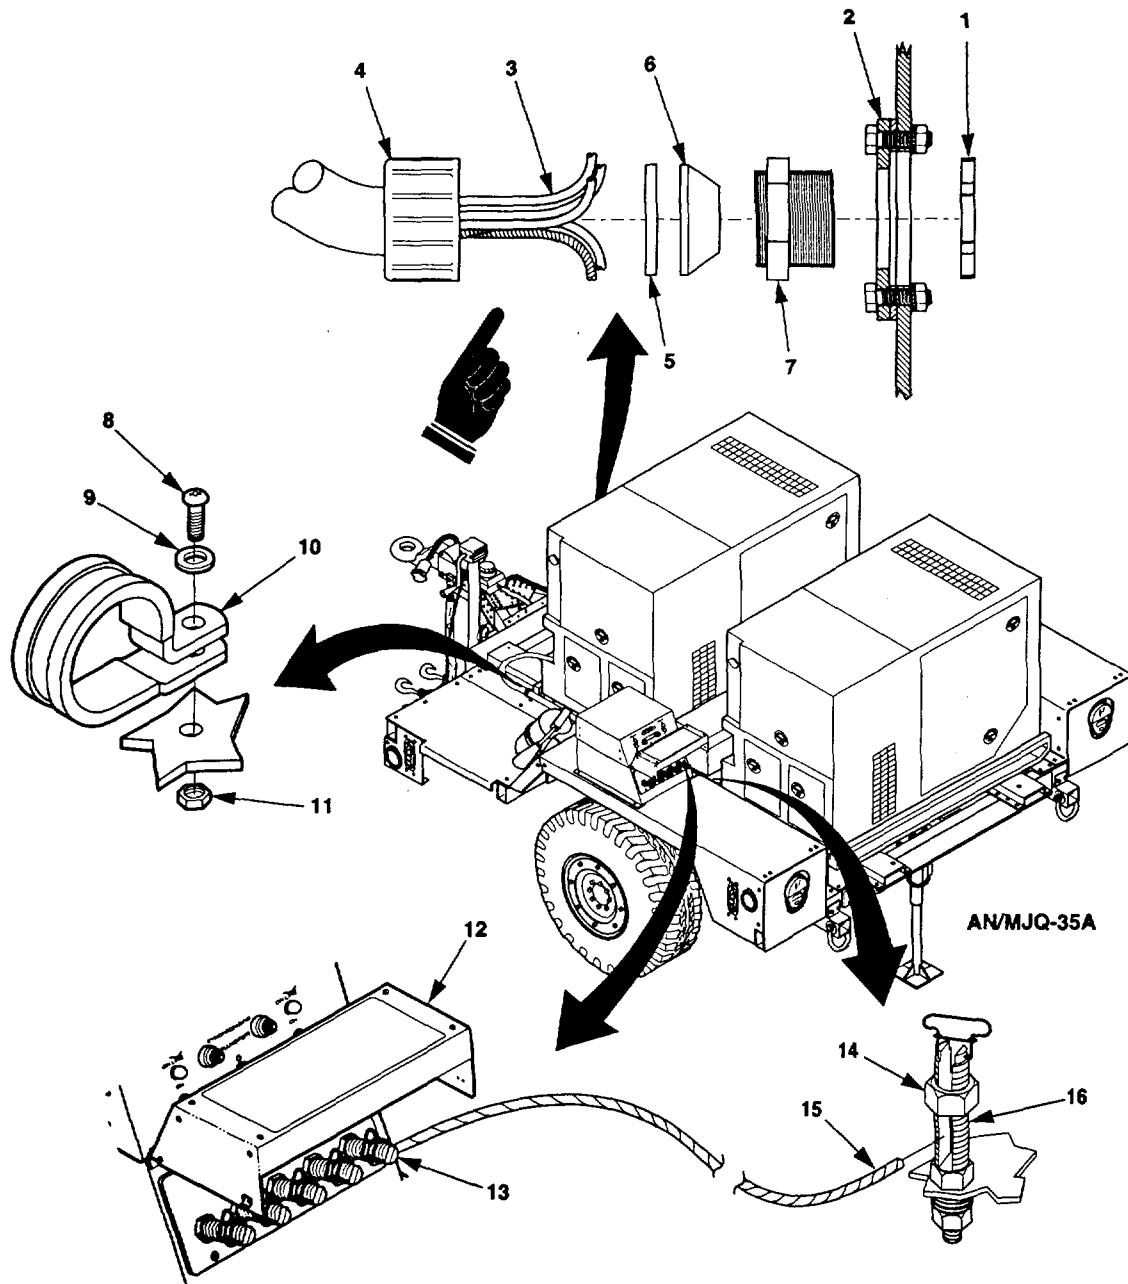

Figure 4-1.1. Installation of Power Cables on AN/MJQ-35A.
- j. Install flat washer (15), hex nut (14), two flat washers (13), and wing nut (12). Tighten nut (12).
- k. Unlatch and open switch box load terminal cover (18).
- l. Connect ground wire (16) to switch box ground terminal (19).
- m. Close and latch switch box load terminal cover (18).
- n. Position cable and ground wire inside two clamps (10) and secure clamps to trailer using two screws (8), flat washers (9), and nuts (11).
**4-5.2.2 Assembly of Power Plant AN/MJQ-35A.** Refer to figure 4-1.1 and assemble the AN/MJQ-35A Power Plant as follows:
- a. For front generator set, remove stuffing tube locknut (1) from stuffing tube body (7). Slide locknut (1) off power cable leads and ground cable (3).
- b. Loosen compression nut (4). Pull in required length of cable to allow installation of leads on terminal board.
- c. Insert power cable leads (ends without terminal lugs) (3) through generator output plate (2). Slide stuffing tube locknut (1) over power cable leads.
- d. Position stuffing tube body (7) against generator output plate (2). Install and tighten stuffing tube locknut (1).
- (1) Connect lead marked L1 to generator set load terminal L1.
- (2) Connect lead marked L2 to generator set load terminal L2.
- (3) Connect lead marked L3 to generator set load terminal L3.
- (4) Connect lead marked LO to generator set load terminal LO.
- (5) Connect lead marked GND to generator set GND terminal.